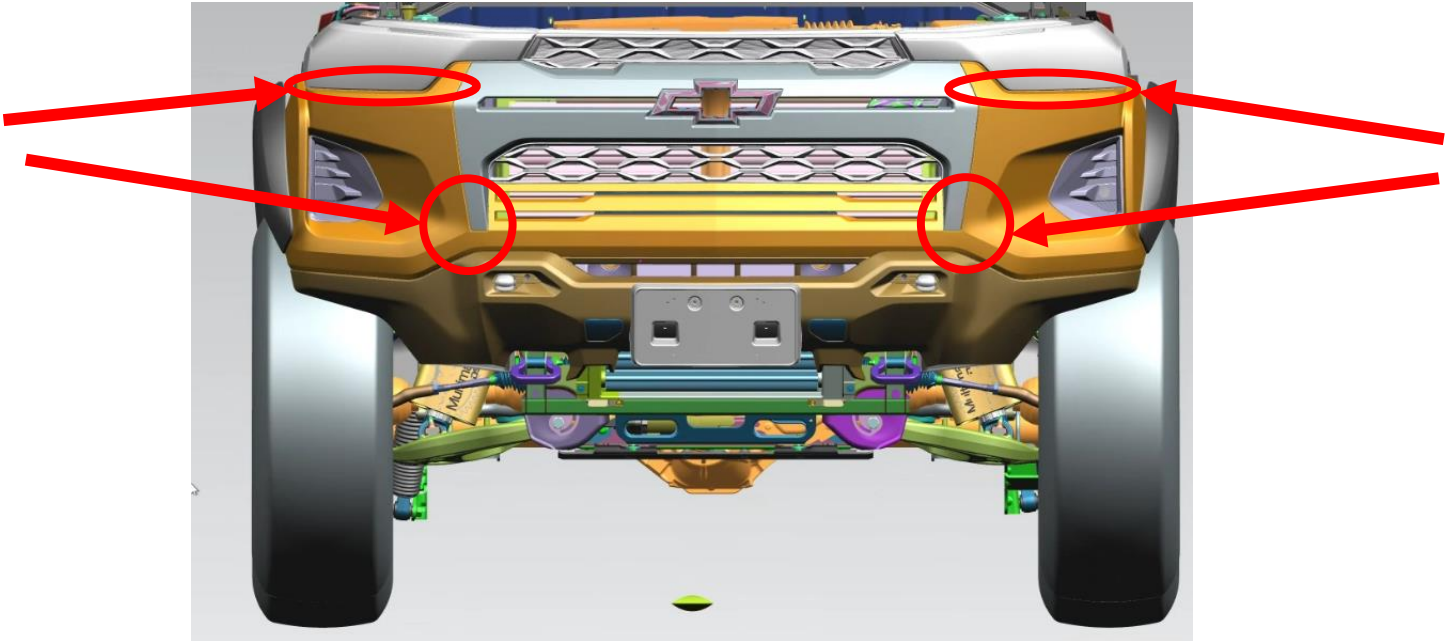

Figure 3 – Front of Vehicle
- b. Disengage Fascia along clip range (red circles) (clips remain in fascia) - Fig 3.